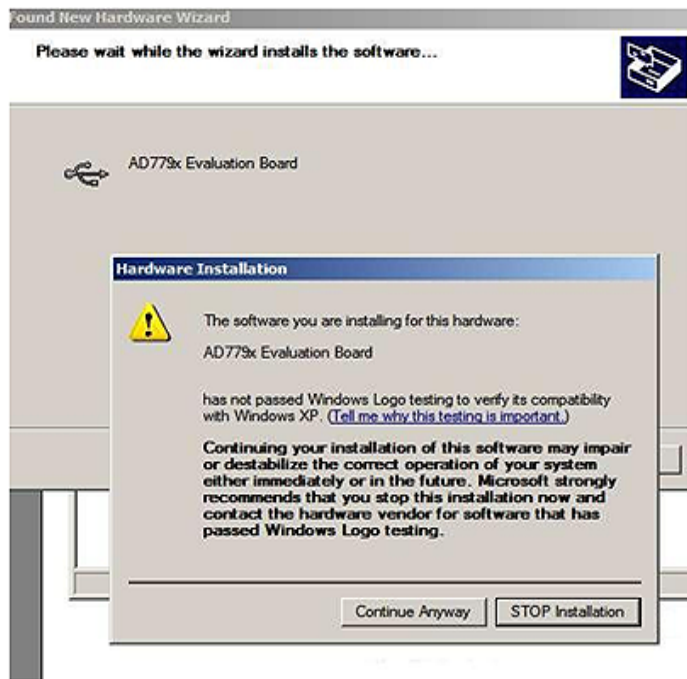

Figure 2. Hardware Installation Window
3. Follow the on-screen instructions that appear. During the installation process if the **Hardware Installation Wizard** appears as shown in Figure 2, select **Continue Anyway** to successfully complete the installation of the AD7792 evaluation board.